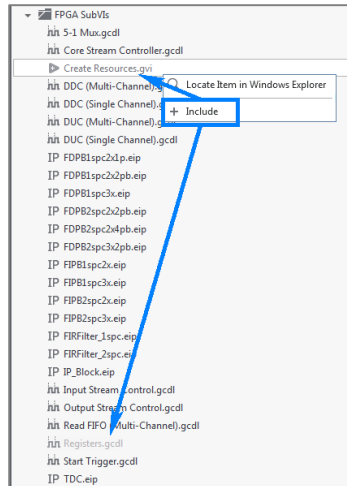

Figure 30: Include Copied Files
- c. In the "Project Files" view on the Navigation Pane of the original project, the new files will appear slightly grayed out. Right-click on each and select **Include**, as shown in Figure 30.